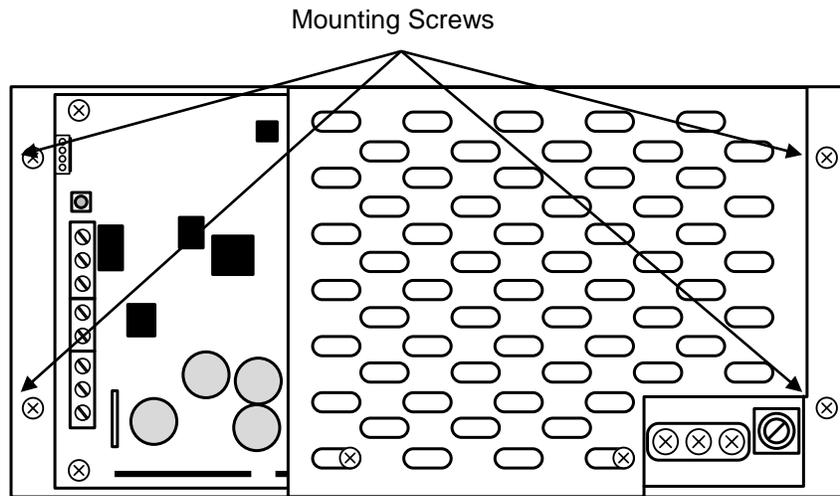

Figure 38 - NX-EM-PSU6 Power Supply Charger Replacement
If replacing the NX-EM-PSU6 power supply charger, remove power (AC and battery) from the system. Remove the AC, battery, 24 VDC output and relay trouble contact wiring from the NX-EM-PSU6. Remove the four (4) screws securing the NX-EM-PSU6 to the back box and remove the NX-EM-PSU6 (see figure 38). Position the new NX-EM-PSU6 module onto the back box standoffs and secure with the four (4) removed screws. Replace the removed AC, battery, 24 VDC output and relay trouble contact wiring. Reconnect AC and battery power to the system.